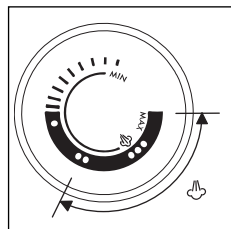

fig. 9
- Position the thermostat dial on the iron handset within the steam area indicated in fig. 9. (remember to test fabrics first if unsure of the temperature to iron them at). The thermostat dial should be positioned according to the type of fabric to be ironed: